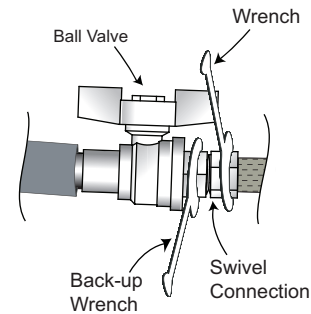

Fig. 32 — 42SMA Riser to Unit Installation (Tighten Swivel Connections)
5. Use a wrench to tighten the swivel connections. Use a backup wrench to hold the riser ball valve stationary to prevent it from bending or twisting during installation as shown in Fig. 32. Be careful not to over-tighten swivel connections.